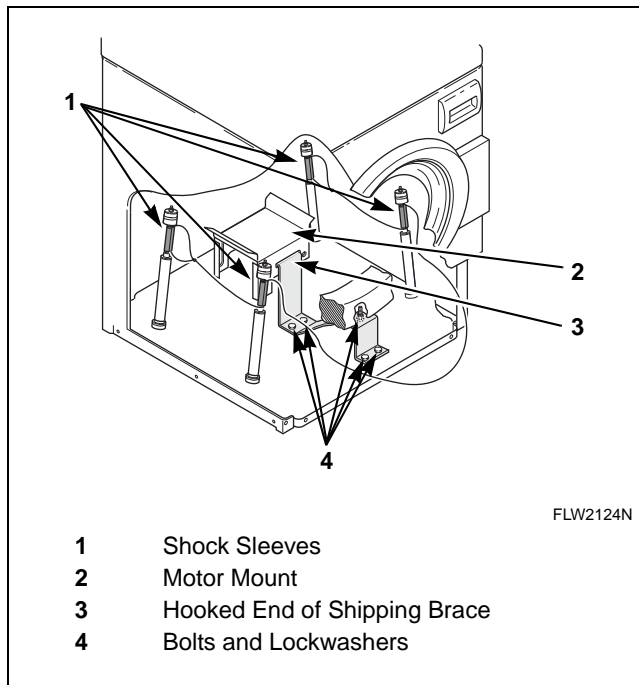

Figure 22
- Place the shock sleeves on all four shock absorbers. Refer to *Figure 22*.
- Insert hooked end of shipping brace into the open slot of the motor mount. Refer to *Figure 22*.
- Attach the brace with the five bolts and washers. Refer to *Figure 22*.